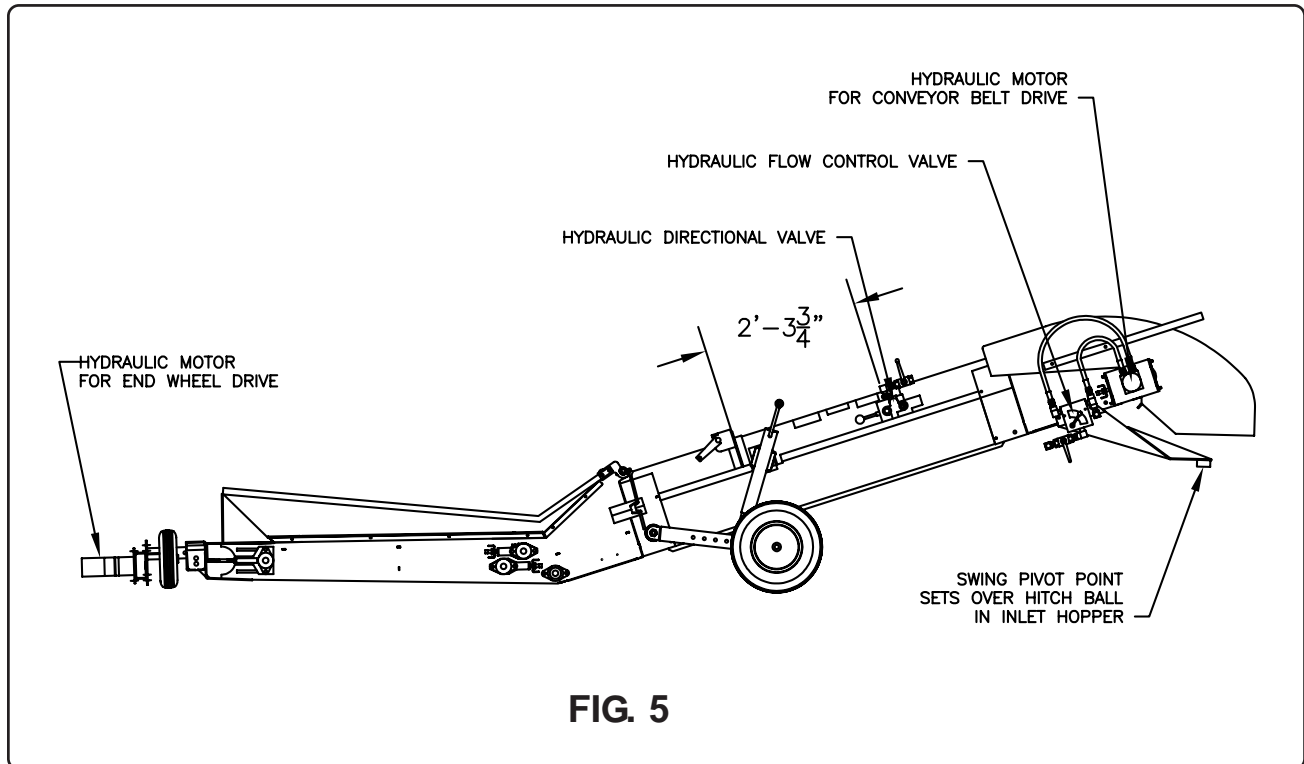

FIG. 5
2. Measure up 2' 3-3/4" (0.7m) from the center of the tube flange and mark the location for the bottom edge of the valve mount band. (See Fig. 5). Attach band to tube with four 5/16" x 1-1/2" bolts, lockwashers and non-locking nuts.